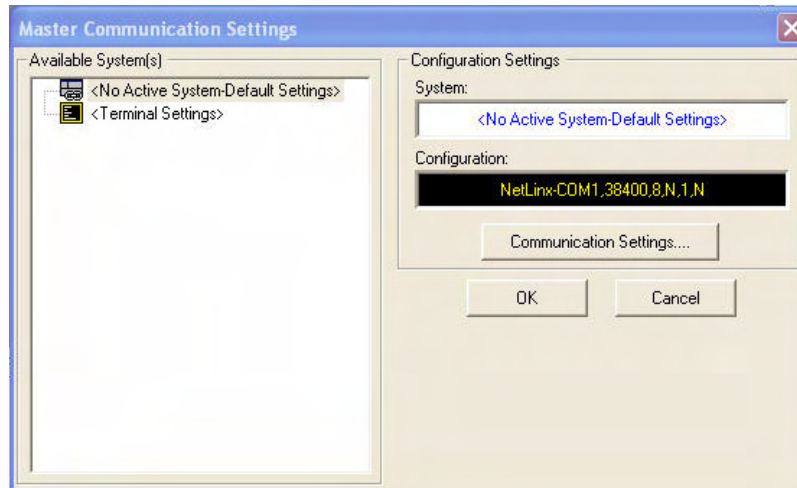

FIG. 37 Master Communications Settings dialog
2. In NetLinx Studio, select **Settings > Master Communication Settings** from the *Main* menu to open the *Master Communication Settings* dialog (FIG. 37).